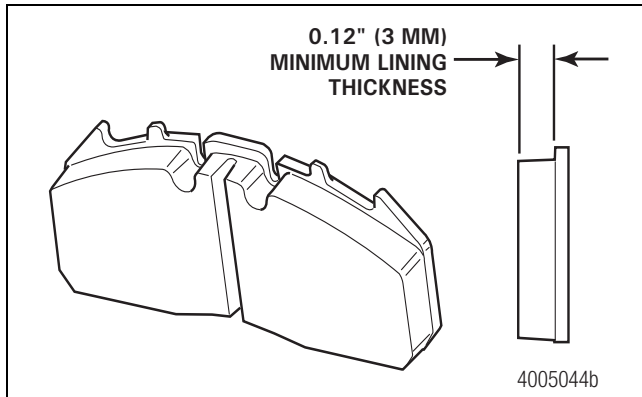

Figure 5.15
9. Measure the friction material thickness on the brake pad. Replace brake pad assemblies before the lining thickness reaches 0.12-inch (3 mm). Figure 5.15.